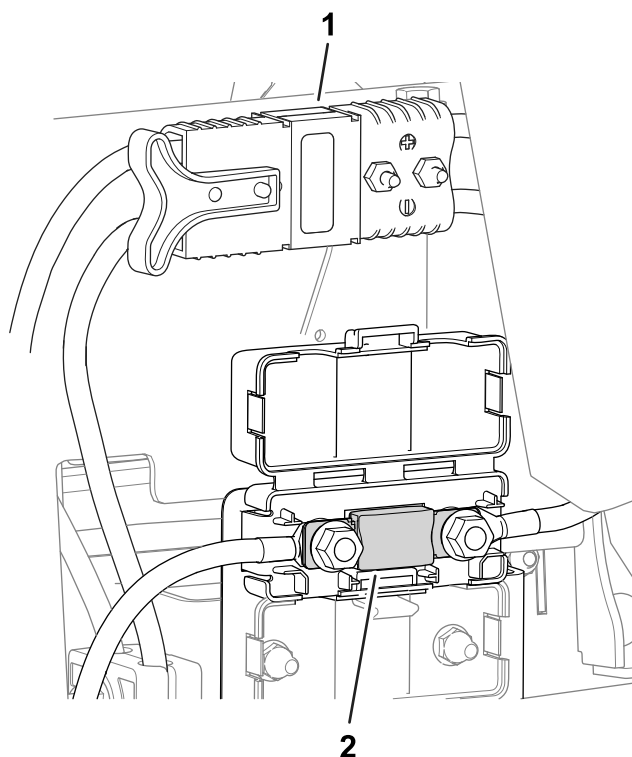

Figure 45
- The fuse for the electrical system is located under the main-power connectors (Figure 45).